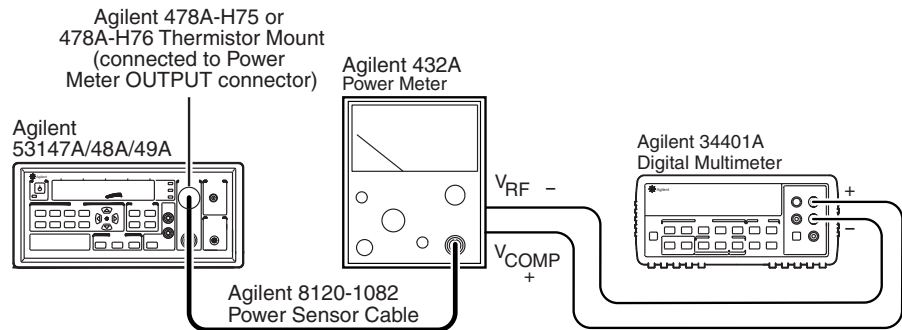

Figure 1-11. Power Meter Reference Level Test Setup
- 4 Connect the Agilent 478A-H75 or 478A-H76 Thermistor Mount to the Agilent 53147A/148A/149A Power Meter OUTPUT connector, as shown in Figure 1-11.